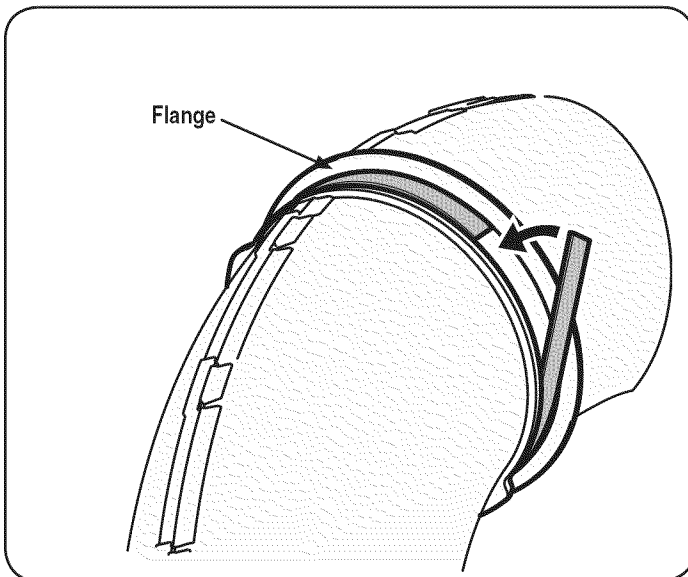

Figure 27
16. Peel the backing off of the self-adhesive foam strip (721-04388) that has been included with your grass collector. Apply it to the upper chute, flush against the flange as shown in Fig. 27.